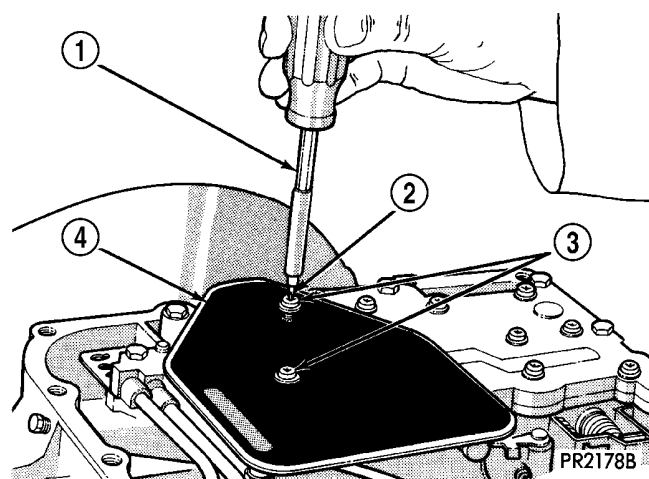

Fig. 9 Oil Filter Screws
(1) Raise vehicle on a hoist (See Lubrication, Group 0). Place a drain container with a large opening, under transaxle oil pan.
(2) Loosen pan bolts and tap the pan at one corner to break it loose allowing fluid to drain, then remove the oil pan.
(3) Remove oil filter-to-valve body screws (Fig. 9).